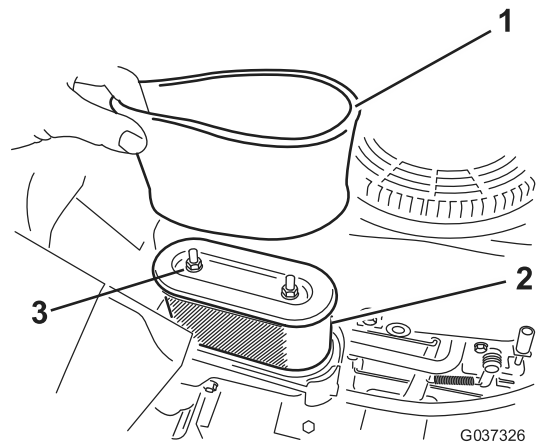

Figure 29
5. Remove the 2 nuts securing the filter assembly to the housing (Figure 29).
1. Install the foam filter onto the paper filter (Figure 29).